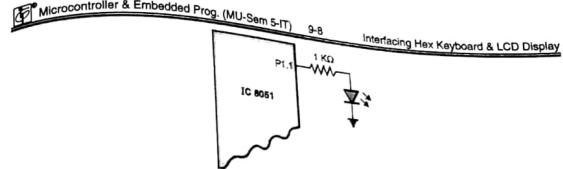

Fig. 9.3.2 : LED driven by 8051 port pin (Method 2)
- Connect the anode of LED to Vcc through resistor. Connect the cathode of LED to the port pin of 8051 as shown in the Fig. 9.3.2.